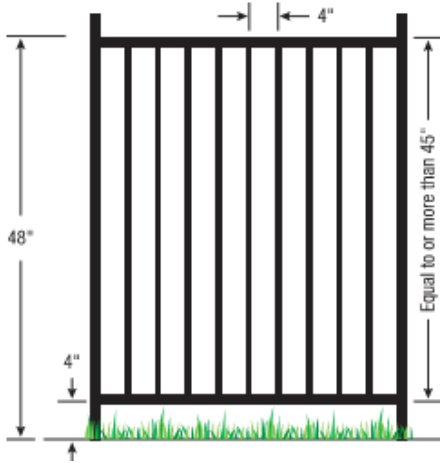

Figure 1
1. The **top of the barrier** must be at least 48 inches above the surface measured on the side of the barrier which faces away from the swimming pool. (figure 1)